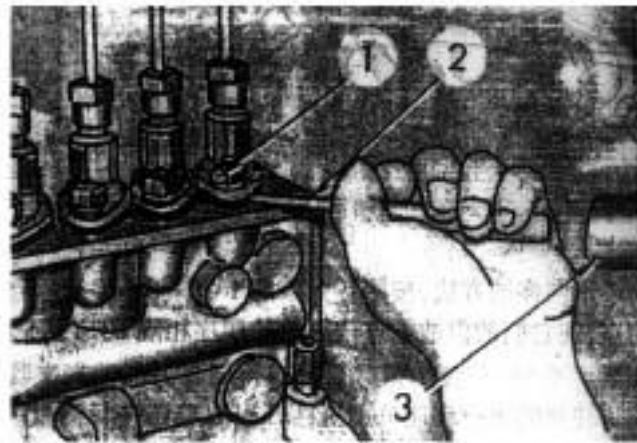

Fig. 2-52 Adjustment of the amount of fuel supply
- As shown in Fig. 2-52, each plunger sleeve can be turned by 10° relative to the pump body, which corresponding to the relative travel of 2.5mm of the fuel supply gear rack. Therefore, before adjusting the amount of fuel supply of the branch pumps, the fixing screw on the branch pump flange should be loosened first. Use a screwdriver or a similar tool to tap lightly the branch pump flange to make it turn. Pay attention to the direction of increase or decrease in the amount of fuel supply while the adjustment is being conducted. After the adjustment of fuel supply is completed, tighten the flange fixing screw to the specified torque. The data in the first column of Table 2-7 is used to adjust the reference of the pump. The amount of fuel supply must well meet the requirement under this working condition. The data in the following columns in the Table are used for checking the conformity of the amount of the fuel supply of the plungers. As there is some error in machining of the spiral shaped plunger, the amount of fuel supply of the fuel injection pump might be satisfactory under standard working conditions and the difference among various cylinders in the amount of fuel